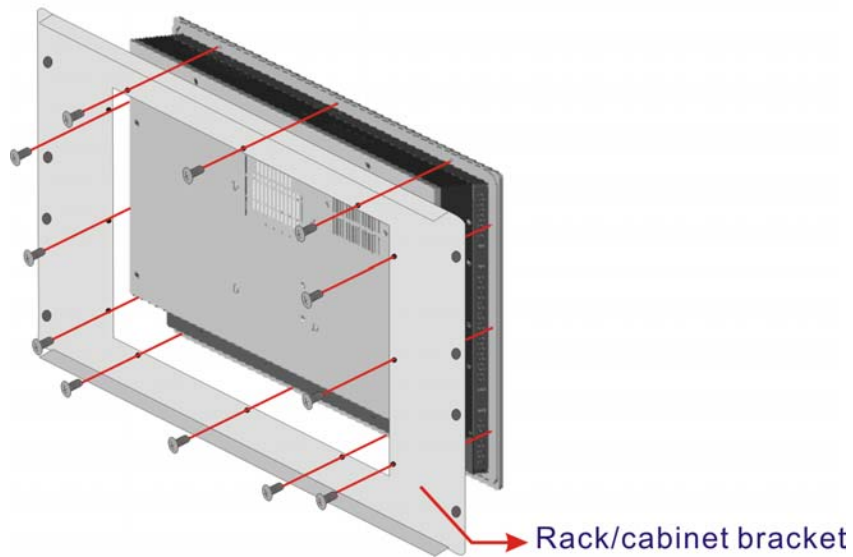

Figure 3-18: Secure the Rack/Cabinet Bracket
- Step 4:** Secure the cabinet/rack bracket to the monitor by inserting and tightening the retention screws (**Figure 3-18**).